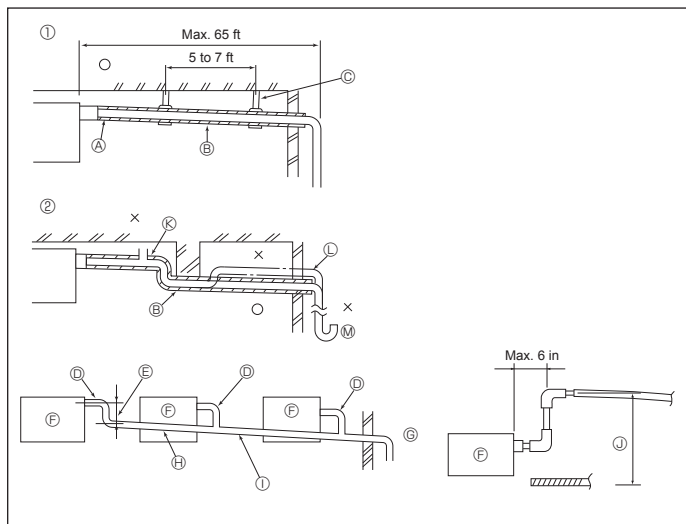

Fig. 6-1
6.1. Drainage piping work (Fig. 6-1)
- ① Correct piping
- ② Wrong piping
- ④ Insulation (9 mm (11/32 inch) or more)
- ⑤ Downward slope (1/100 or more)